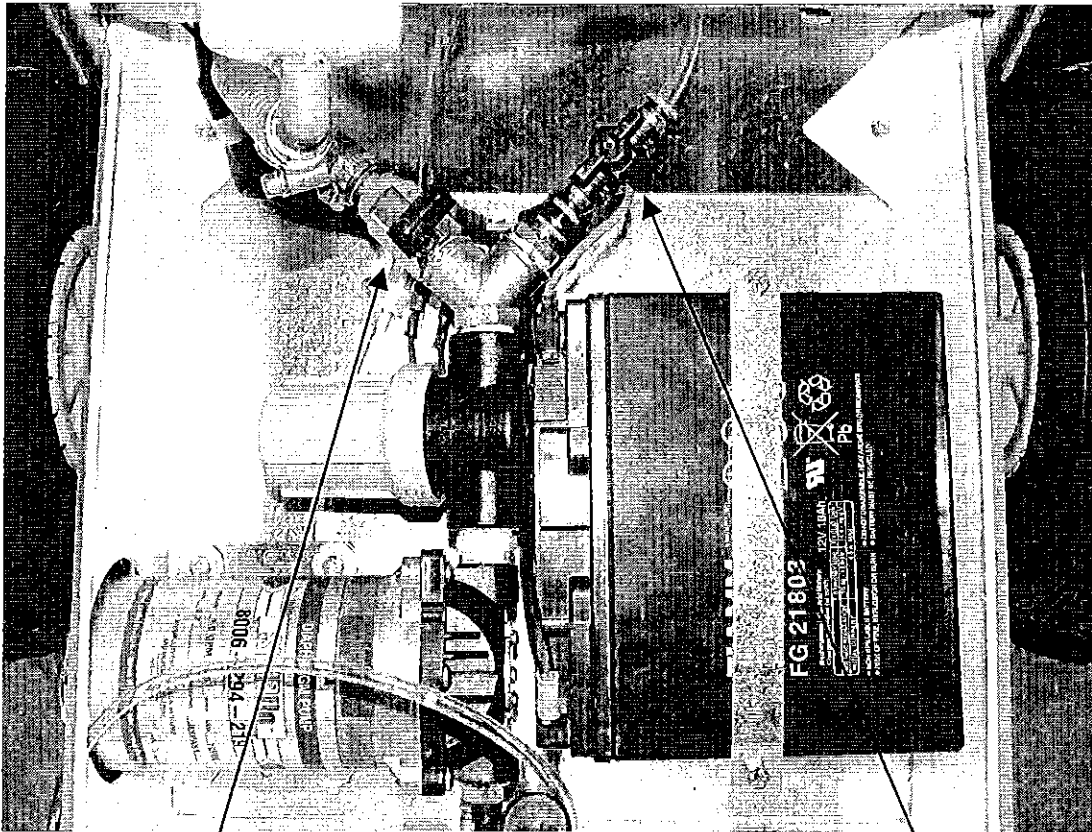

Fig: 2 – Spraying from the water tank – water spraying
4. To flush the system simply turn the paint line tap to the off position and the water line tap to the on position – see Fig 2 - and continue spraying until the water runs clear from the spray head.